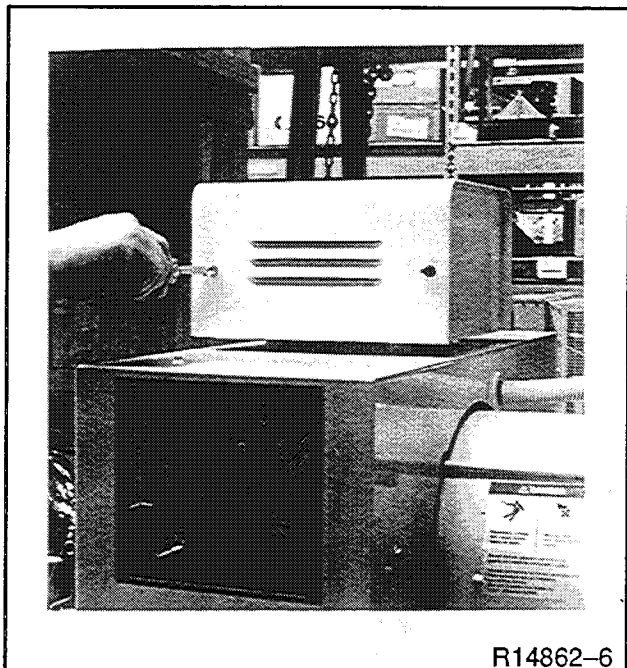

Figure 9-4. Removing Controller Cover
4. Remove four mounting screws securing controller cover and remove cover. See Figure 9-4.